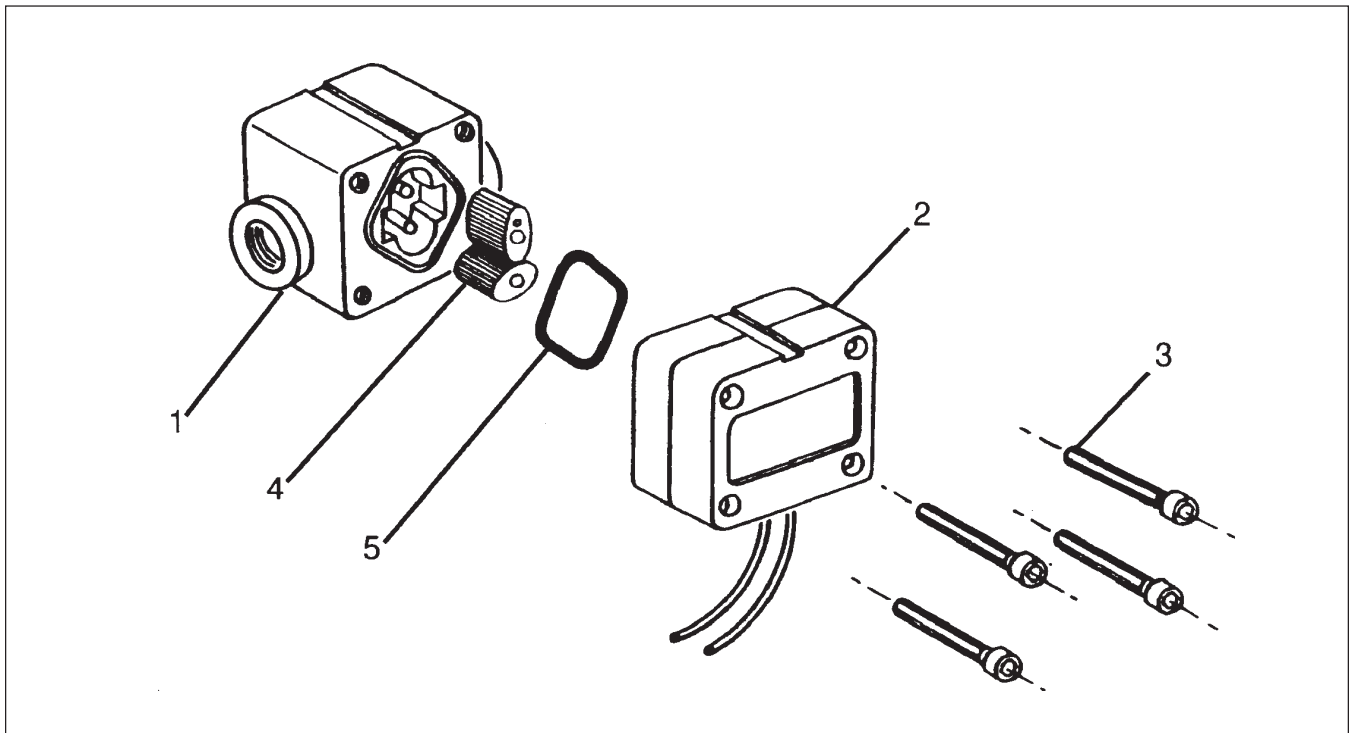

Figure 4-1 Assembly/Disassembly Diagram
4. (See Figure 4-1) Reduce the pressure inside the meter to zero by draining that section of the line which is isolated along with the meter. A method other than removing the cover (Item 2) of the meter should be used if available, i.e. strainer, drain plug, etc. If the pressure must be reduced through the flowmeter, very slowly and carefully crack the screws (Item 3) in the cover (Item 2) until the meter begins to drain slowly thereby reducing the pressure to zero.
5. (See Figure 4-1) Drain the flowmeter completely by removing the cover (Item 2) carefully.
4-4 Disassembly - Flowmeter (Refer to Figure 4-1)
4-6 Assembly - Flowmeter (Refer to Figure 4-1)
NOTE: The groove on the cover must line up with the groove on the meter body (Refer to Figure 4-1).